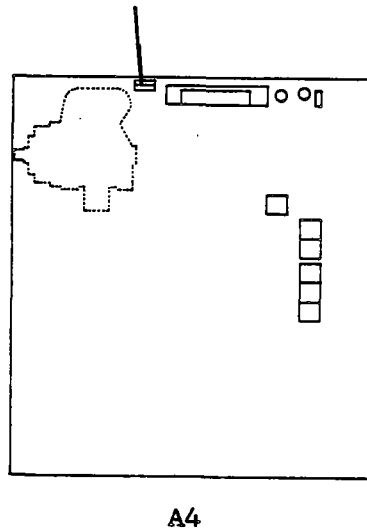

Figure 3-20. Horizontal Position Adjustment Jumper Setting
6. Place jumper (A4W1 and A4W2) in one of the positions shown in Figure 3-20 to move the illuminated area to the center.